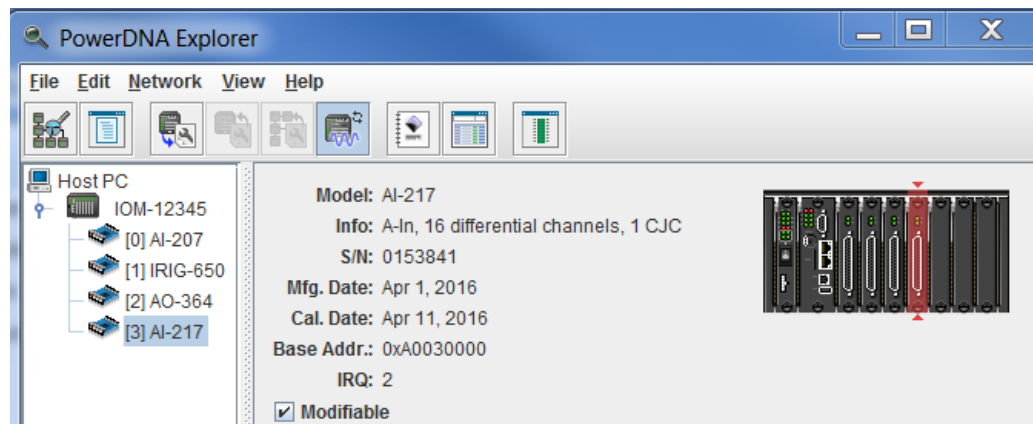

Figure 5-17. Example of I/O Device Settings
5.2.4.2 I/O Device / Board Settings **Figure 5-17** provides an overview of the screen for displaying I/O device settings. Setting options vary for I/O boards on a per-board basis. The example below show settings for the AI-217 analog input board.